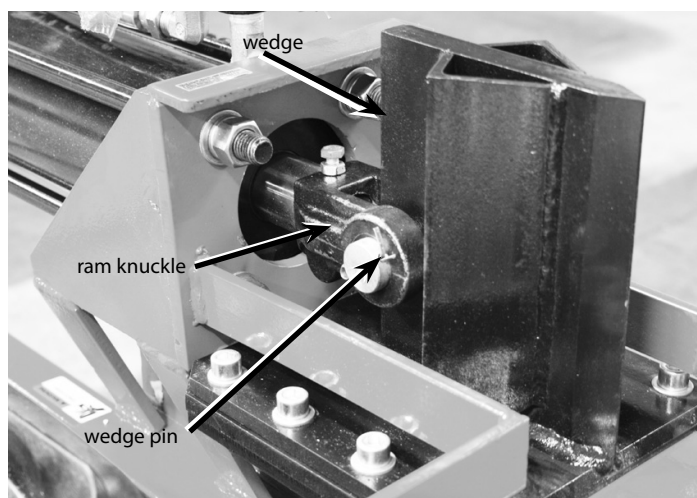

Figure 11
14. Straighten the knuckle on the ram and slide the splitting wedge back toward the cylinder so it couples with the ram knuckle. Connect the wedge to the ram knuckle using the wedge pin and two corresponding cotter pins. **SEE FIGURE 11.** Bend the ends of each cotter pin to keep them from falling out.